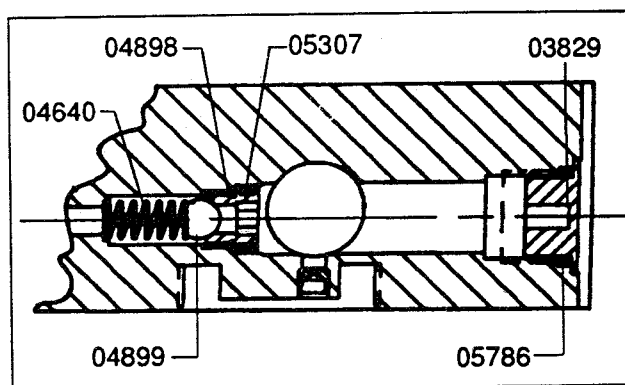

Figure 19
13.0 ALARM CHECK VALVE ASSEMBLY - REAR OF VALVE BLOCK (FIGURE 19)